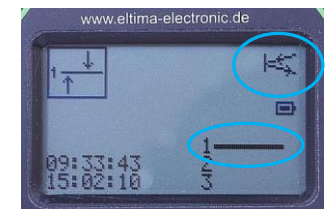

Figure 5: Alignment level
- Touch the  button. The alignment level will show, marked by the  icon, see Figure 5.
- Now point the beam of the light barrier at the reflector. The length of the reflection bar, Figure 5, indicates the degree of reflection coming from the reflector. Adjust the light barrier horizontally and vertically until the reflection is maximum, then tighten the barrier on the tripod.